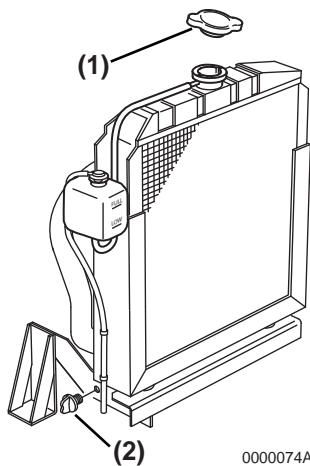

Figure 5-15
2. Remove the radiator cap (**Figure 5-15, (1)**). *NOTICE: Prevent dirt and debris from contaminating the engine coolant. Carefully clean the radiator cap and surrounding area before you remove the cap.*
3. Remove the drain plug or open the drain cock (**Figure 5-15, (2)**) at the lower position of the radiator and drain the engine coolant.